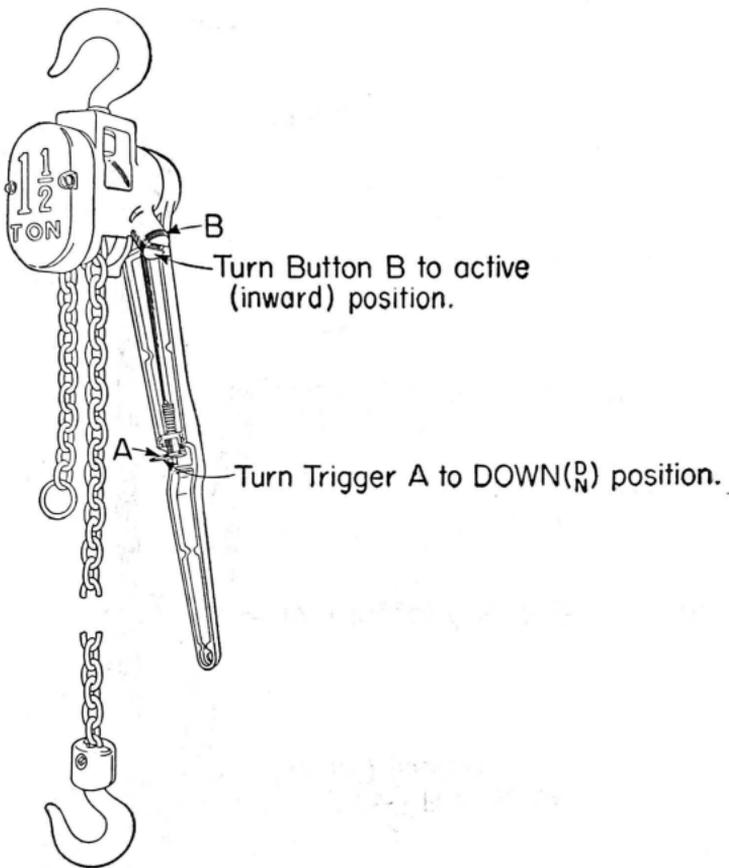

Fig. 3
3.06 In order to use the hoists for lowering a load or reducing a pull, set the button and trigger controls as shown in Fig. 3.